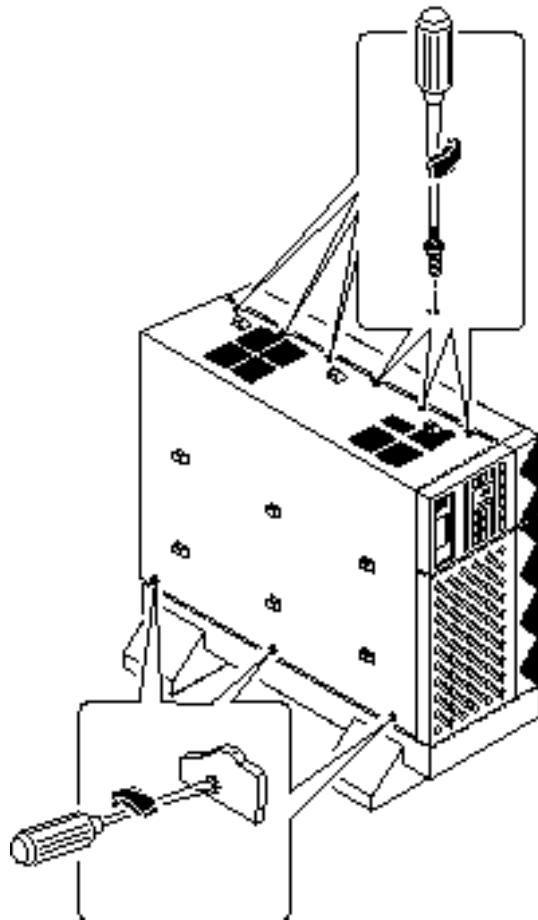

Figure 2-26 Installing the Left Inner Panel
5. **With the Phillips #1 screwdriver, tighten the eight Phillips-head captive screws at the side and top of the left inner panel (Figure 2-26).**